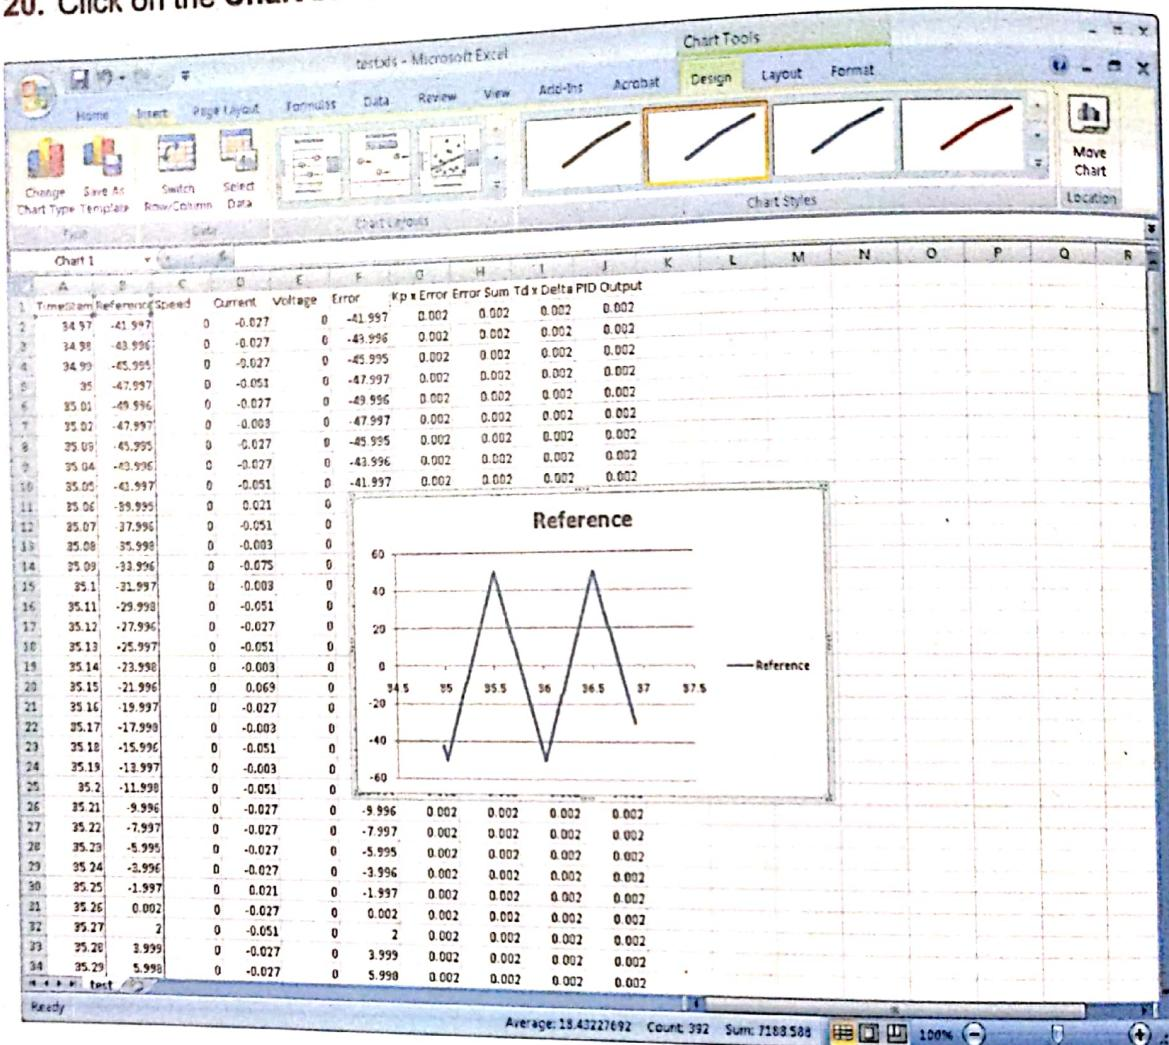

Figure 17. Plotted reference data.
20. Click on the Chart button. The plotted data appears as shown in Figure 17.